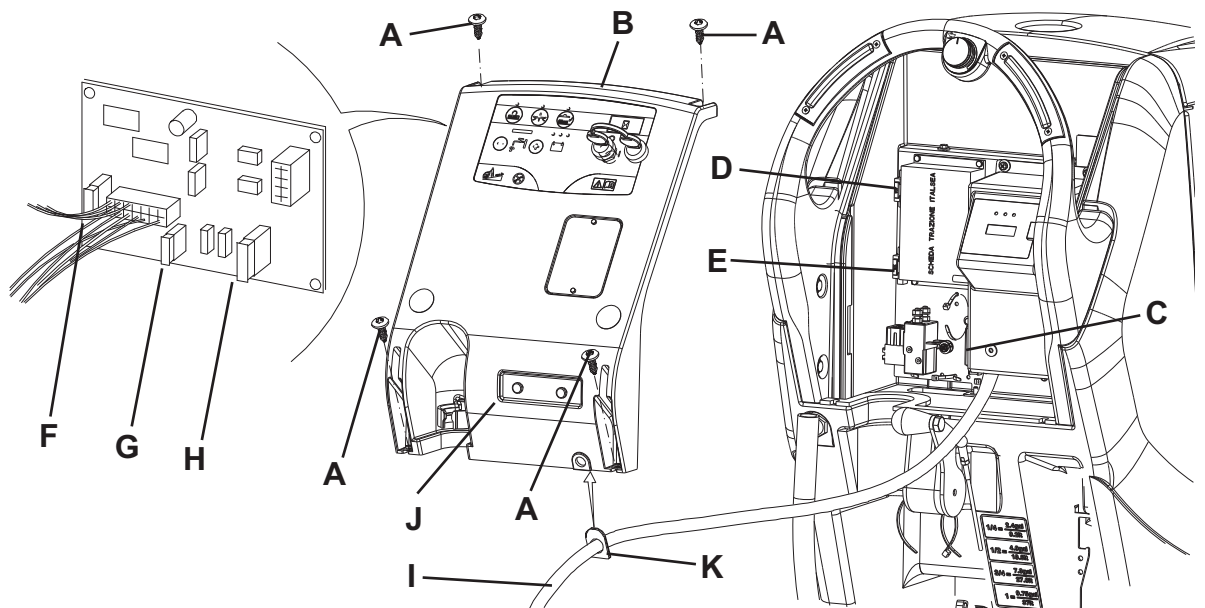

Figure 8
1. Disconnect the battery connector (12).
2. Move aside the recovery water drain hose (16).
3. Remove the battery charger cable (I, Fig. 8), if equipped, from the cable holder (J).
4. Remove the screws (A) and carefully move aside the panel (B) by disengaging the grommet (K) from its housing on the panel (B).